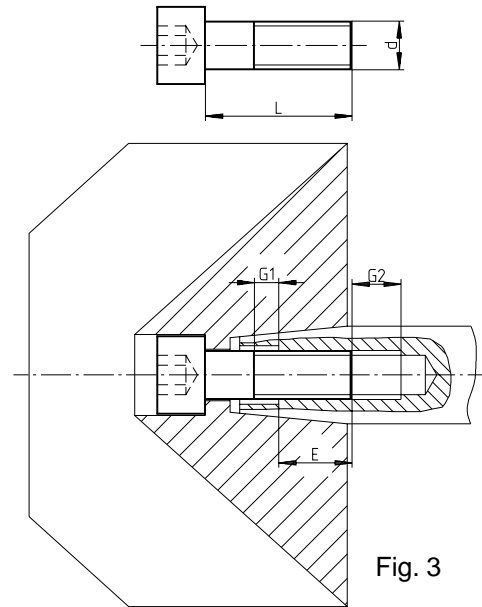

Fig. 3
General: To **estimate correct shim (411) thickness**, lower drive unit into casing just until impeller cannot be turned. Measure gap between drive unit and volute casing at several places and take average. Now add 0.5 mm to the average gap measured; this will be approximate shim thickness required to obtain correct clearance "C" (Fig. 3).